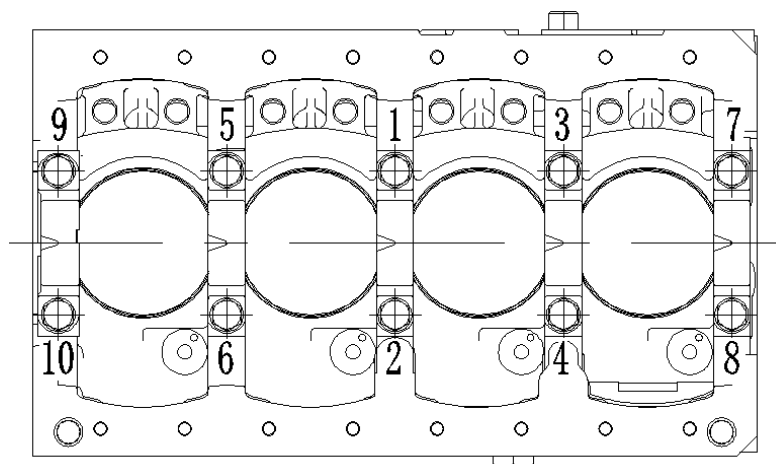

Figure 4-11 Tightening Order of Main Bearing Bolts
- (1) Wipe out the main bearing bottom hole of cylinder block
- (2) Press the upper bearing bush into the bottom hole of cylinder block main bearing in order, and wipe out the foreign matter scratched off the bush.
- ① Strictly check if there is damage by collision before pressing in the upper bearing bush, if there is damage by bump, and it is not allowed to be used again after repair.
- ② After being pressed in, the upper bearing bush should align with the oil holes and oil groove in the cylinder block, if staggering by more than 1/5-1/4 of oil holes, assembly of the bush will be prohibited; the upper bearing bush should fit completely with the cylinder block bottom hole.
- (3) Apply adequate clean lubricant to inner surface of upper bearing bush.
- (4) Hoist up the crankshaft, use compressed air to blow out the oil passage holes, and use a towel to wipe out the main journal and connecting rod journal, after that, lightly drop it down into the cylinder block, in this progress, it is required that there should be no crankshaft damage by collision.
- (5) Wipe out the upper thrust plate and press it into cylinder block. Oil groove of upper thrust plate should point outward (pointing at crankshaft).
- (6) Press lower main bearing bush, assemble main bearing cover and lower thrust plate (with oil groove pointing at crankshaft side). There are totally five numbers of main bearing seats, openings for bearing bush location are milled respectively on the main bearing seat and main bearing cover, when assembling main bearing cover, make the boss arrow on the cover point at front end of engine block (See Figure 4-11). All bearing covers and seats are bored in pairs, and marked with corresponding numbers, which should not be exchanged.
- (7) On the basis of ensuring smooth oil seal without distortion or deformation, use special tooling to put the oil seal smoothly into the seal ring groove on the lower plane of cylinder block, when pressing in framework oil seal, make sure it is flat, and ensure the good agreement between cutting edge of oil seal and journal.
- (8) Main bearing bolt: tighten up the main bearing cover with torque wrench in the order below, first, main bearing Number 3, then Number 2 and 4, finally Number 1 and 5, and apply lubrication on the threads and support surface. Two bolts of a same main bearing cover should be tightened up in twice, acquire the torque of 80N.m for the first time, and (140-160) N.m for the second time. Before tightening up the last bolt, move the crankshaft front and back, making the upper and lower thrust plates on the same plane, and then tighten up. Main bearing bolts can be used repeatedly for three times. The tightening order is as shown in the figure below.